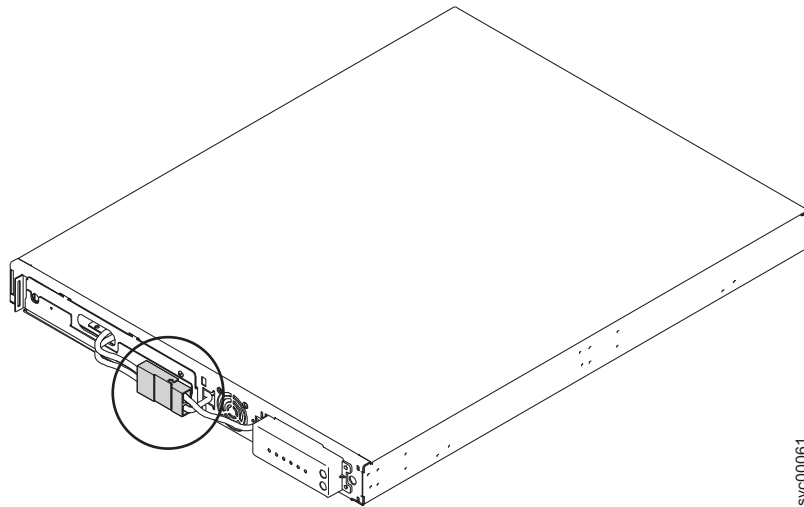

Figure 15. The 2145 UPS-1U internal-battery connector
5. Connect the internal battery connector (shown in Figure 15 on page 22). Each end of the keyed connector has two wires: one red (+) and one black (-). Align the connector so that the two red wires are joined together and the two black wires are joined together.